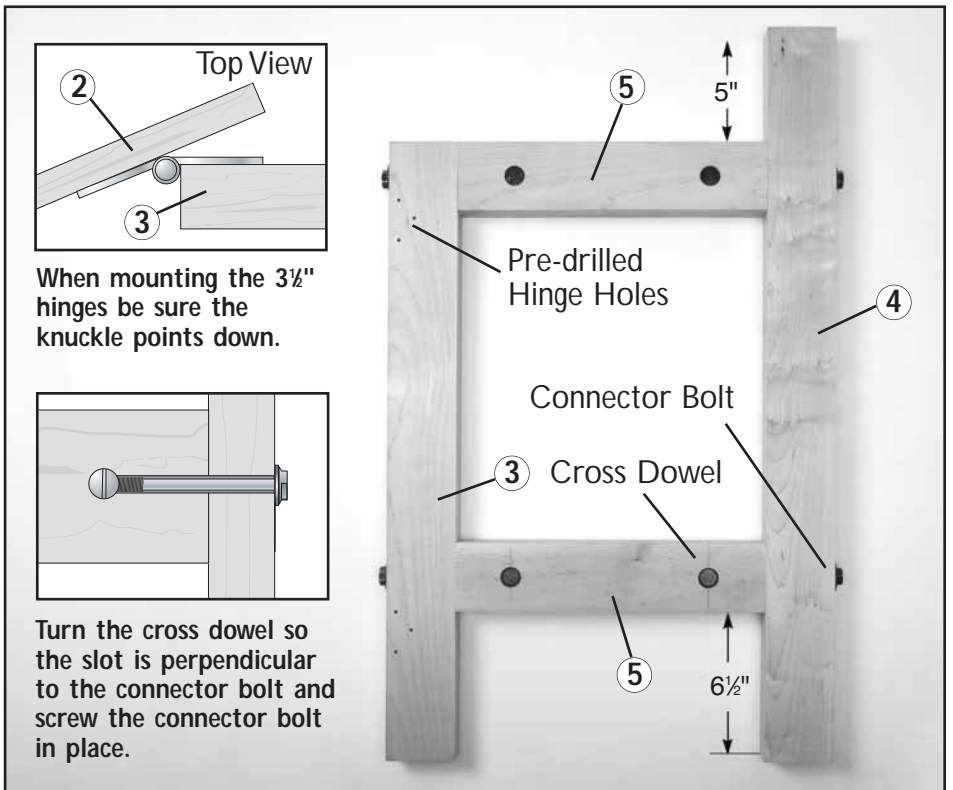
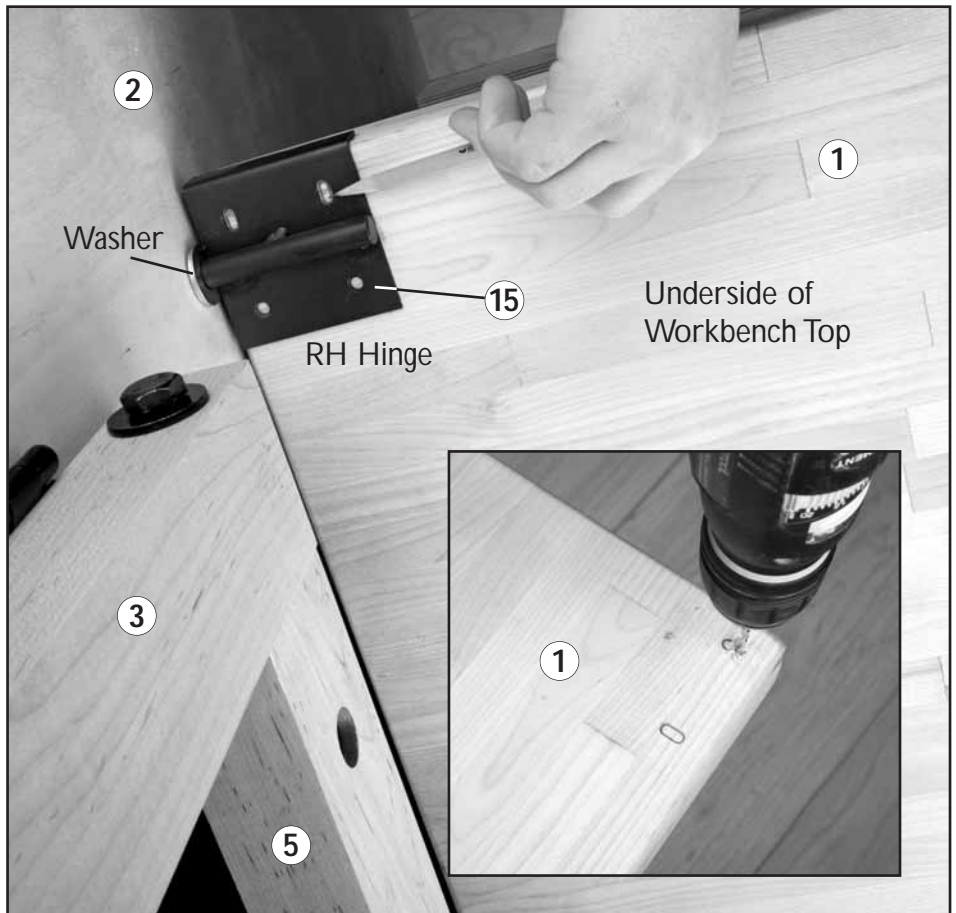

Fig. 3 - Right Leg Assembly.
Fig. 4 - View from below the Workbench Top (1).
At this point, you should have a completed top shelf assembly. Now, it's time to drill for the "stepped" confirmat screws that hold the Sides (2) to the Top Back Support (7) and Bottom Back Support (9). Start with the upper three indicator holes on each Side (see Fig 3). In each hole:
13. Assemble the Legs as shown in **Fig. 3**.
14. Using the pre-drilled pilot holes in the Legs as a guide, attach the 3½" Hinges (17) to the legs.
15. Attach the hinge and leg assemblies to the workbench Sides (2), again using pre-drilled pilot holes as a guide.
16. Insert the RH and LH Pivot Hinges (15 & 16) and washers into holes pre-drilled into the workbench Sides (2).
18. Center the Workbench Top (1) in position on top of the Legs and Pivot Hinges (15 & 16) making sure the hinge is flush with the table's edge.
19. Mark the location of the slotted screw holes only in both Pivot Hinges (15 & 16). **See Fig. 4**.
20. Remove the Workbench Top (1) and drill 1/8" pilot holes where you've marked. **See Fig. 4 inset**.
21. Put the Workbench Top (1) back in place on top of the Legs and Pivot Hinges.
22. Attach the Workbench Top to the Pivot Hinges (15 & 16) with 1" Pan Head Screws (22) in the hinges' slotted holes.